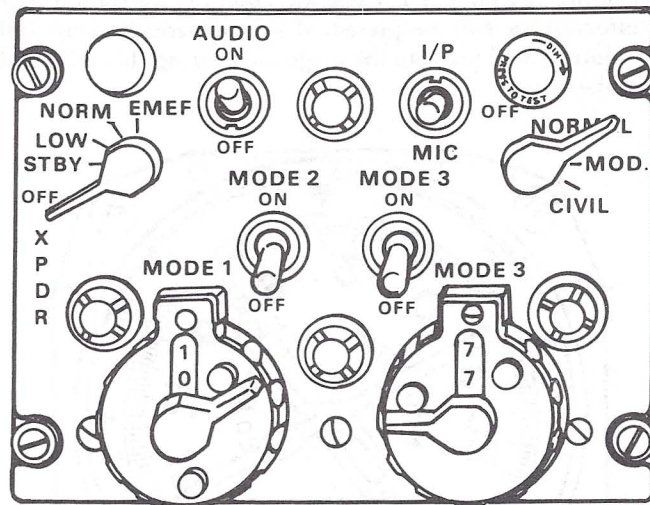

Figure 3-27. Transponder Control Panel (AN/APX-44)
(May be installed in place of AN/APX-72.) The IFF transponder set (AN/APX-44) receives, decodes, and responds to the characteristic interrogations of the Mark X Identification Friend or Foe (IFF) system and is supplemented by a Selective Identification Feature (SIF). It also receives, decodes, and responds to interrogations of the civil secondary ground radar systems. The receiver section of the set operates on a preset frequency within the 1,010 to 1,030 MHz range and the transmitter section operates on a single preset frequency within 1,090 to 1,110 MHz range. The transponder set can also be used to transmit (64) specially coded position identifying replies after the set has been interrogated by a ground-based IFF system. The AN/APX-44, which is limited to line-of-sight range, receives an interrogation by a ground-based IFF system. The set then decodes these signals and transmits a coded reply to the questioning source. The reply, which can be preset in the transponder, presents positive identification and position of the helicopter. The IFF transponder set includes the following components: the receiver-transmitter, the transponder control panel (figure 3-27), and the antenna which is on the underside of the fuselage (9, figure 3-5). The transponder set is powered by the 28-volt dc radio bus thru the IFF circuit breaker on the dc circuit breaker box.
3-80. Controls and Function, Transponder Control Panel, (AN/APX-44) (See figure 3-27.)